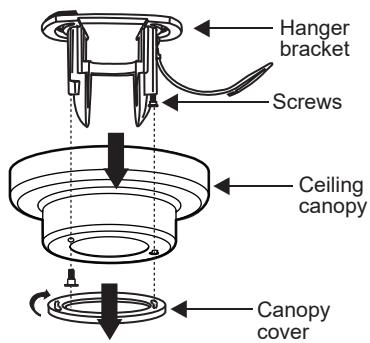

Fig. 7
1. Remove the canopy cover from the canopy by turning the cover counter clockwise. Remove the hanger bracket from the canopy by removing the 1 of 2 screws from the bottom of the hanger bracket and loosening the other one a half turn from the screw head. This will enable you to remove the hanger bracket. (Fig. 7)